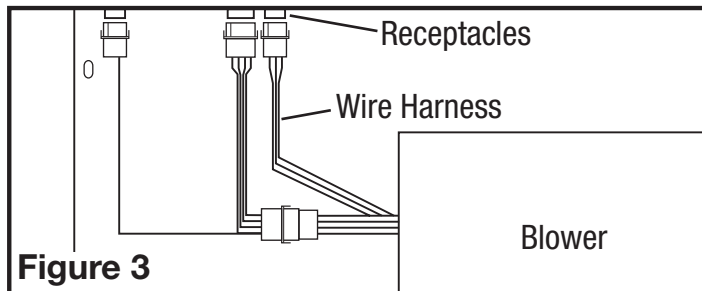

Figure 3
- Plug the 2, 3 wire and 4 wire quick connect cords from the blower into the appropriate receptacles located on the inside front of the hood canopy. These cords will only fit into the receptacles one way (**Figure 3**).
5. Plug both the 3 wire and 4 wire quick connect cords from the blower into the appropriate receptacles located on the inside front of the hood canopy. These cords will only fit into the receptacles one way (**Figure 3**).